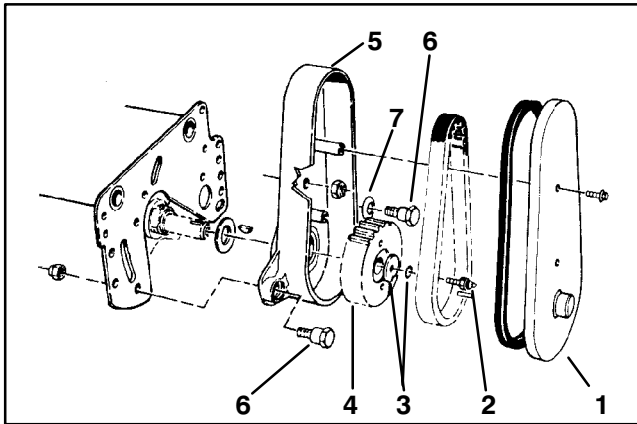

Figure 6
3. Remove (2) flange screws securing cover to drive housing and remove cover. Remove drive belt from housing (Fig. 6).